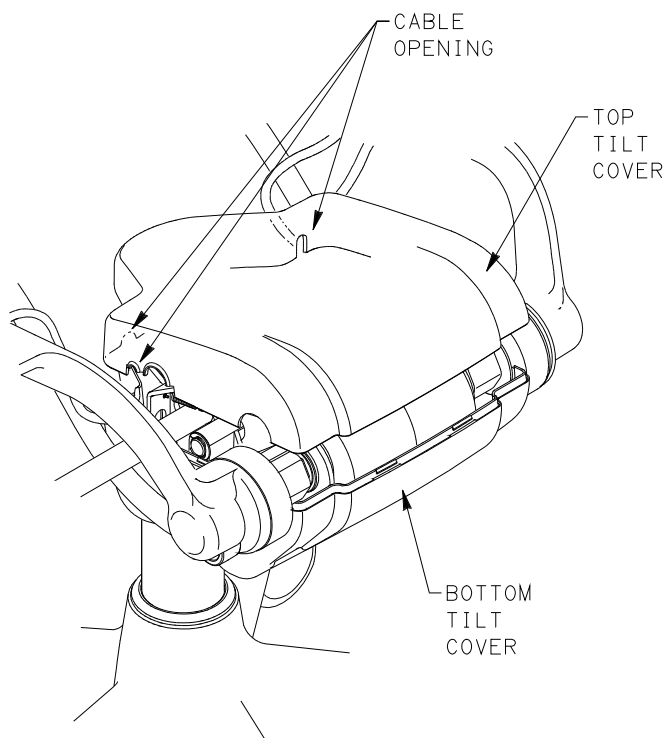

FIGURE 5
9. PLACE TOP TILT COVER ON TILT AND ALIGN TO BOTTOM TILT COVER. ROUTE ALL CABLES THROUGH CABLE OPENINGS AND SNAP COVERS TOGETHER. SEE FIGURE 5.